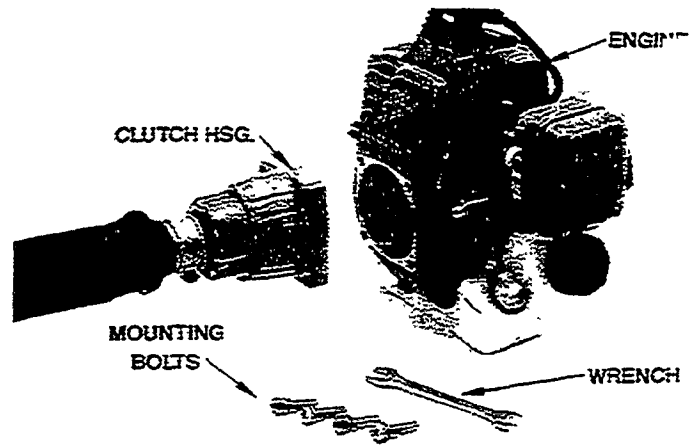

Figure 1
- Using the four (4) bolts supplied, mount the engine to the clutch housing as shown. (Figure 1)
- With wrench supplied, tighten all four (4) bolts evenly and securely.